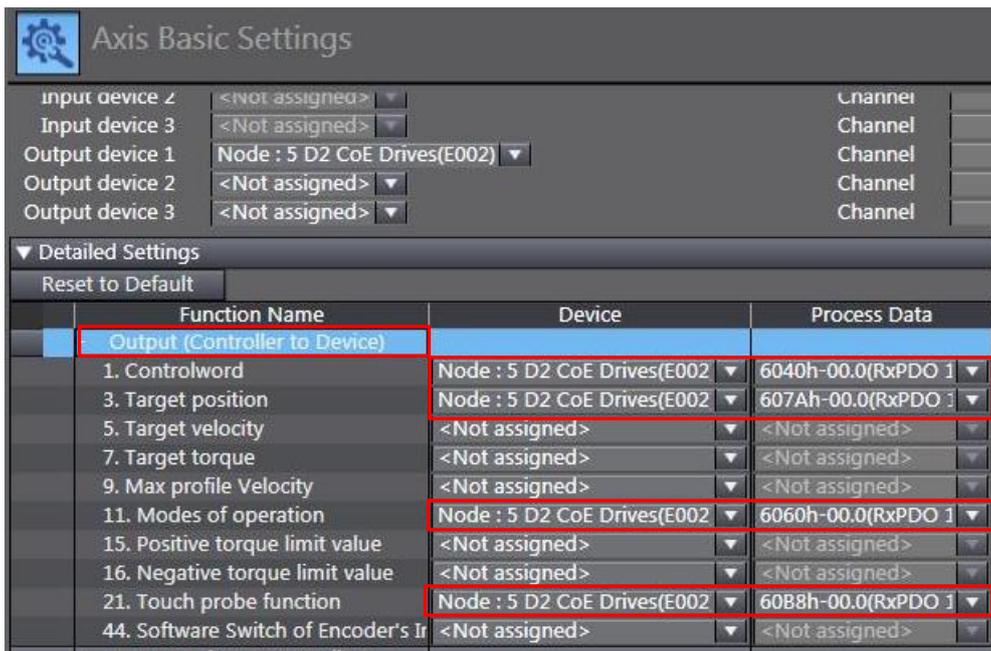

Fig. 5-46
- c. Open “Detailed Settings” in “Axis Basic Settings” to set PDO mapping for “Output (Controller to Device)”, as shown in Fig. 5-46. Note that, the definition of “Process Data” should be the same as “Function Name”.